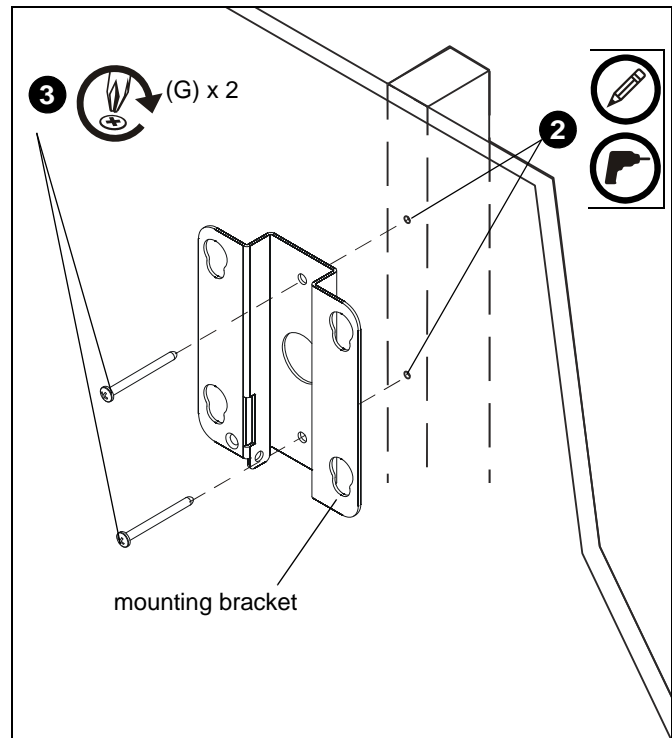

Figure 7
2. Using the removed mounting bracket as a template, mark and then drill two 7/64" diameter pilot holes through top and bottom holes of wall bracket into wall structure. (See Figure 7)
3. Install two #12 x 2 1/2" round Phillips wood screws (G) through bracket and drywall into wood stud. (See Figure 7)
4. Ensure bracket is vertical, then tighten screws (G).